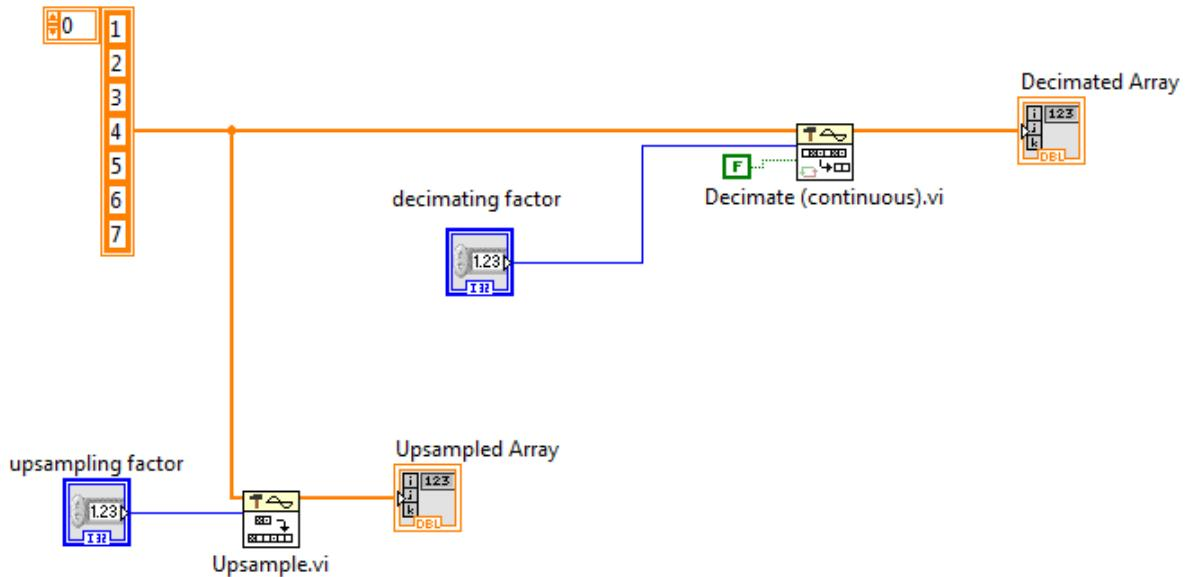
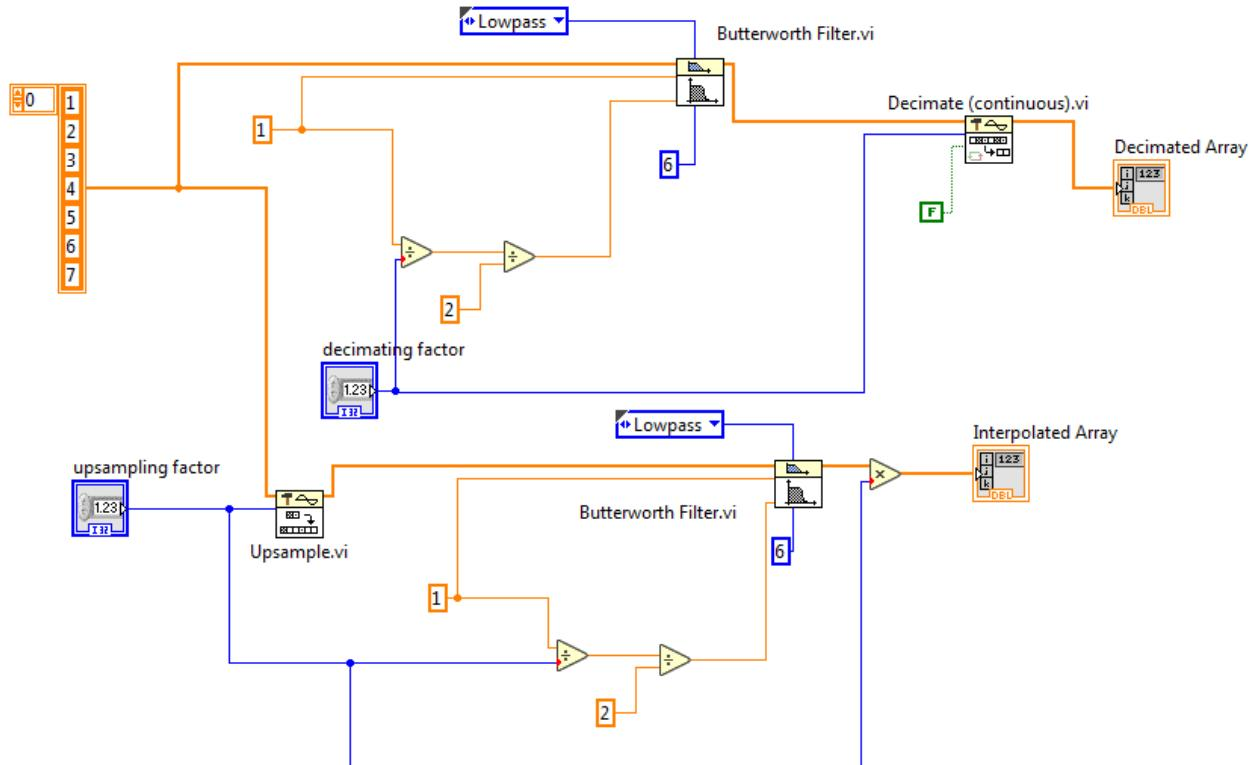

Fig. 5. Decimating and upsampling.
Fig. 6. Decimating with prefiltering and interpolation.
- Construct the following block diagram. Note that in Fig. 5, the constant array consists of the digits of 1234567. This is the example I.D. number. In your own code, you should replace this array with the one consisting of your I.D. number digits.
- Now, change the block diagram in Fig.5 as shown in Fig. 6 by adding lowpass filters. Again, your constant input array should be the digits of your I.D. number.